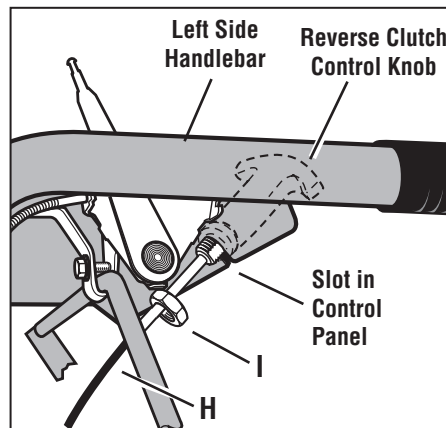

Figure 2-6: Attach reverse clutch control assembly to slotted hole in handlebar panel.
1. Carefully unwrap the reverse clutch control cable (H, Figure 2-6) from its shipping position and route it up along the inside edge of the left side handlebar. A knob and large hex nut (I) is installed on the cable.
control panel and fit the threaded assembly into the hole in the slot (see Figure 2-6). Be sure that the flat side of the threaded assembly is aligned with the flat side of the hole. Slide the hex nut (I) up the cable and tighten it securely.